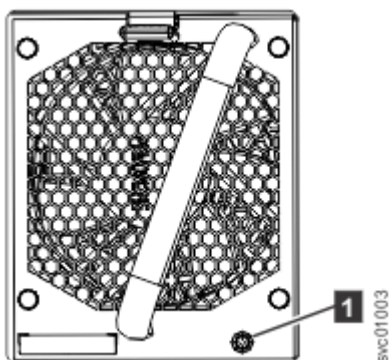

Figure 143. Fan module LED
1. Identify the fan module to be replaced. When lit, the amber LED on the front of the fan module (1 in Figure 143 on page 177) identifies a fault.